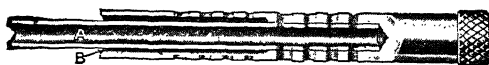

Fig. 101. Winfield Sixteen-Hole Spray Tube
**Sixteen-Hole Spray Tube.** The Winfield carburetor employs a sixteen-hole spray tube, Fig. 101, in place of the conventional jet or jets. There are eight small calibrated holes on each side of this tube. The design of the tube is best understood by imagining that